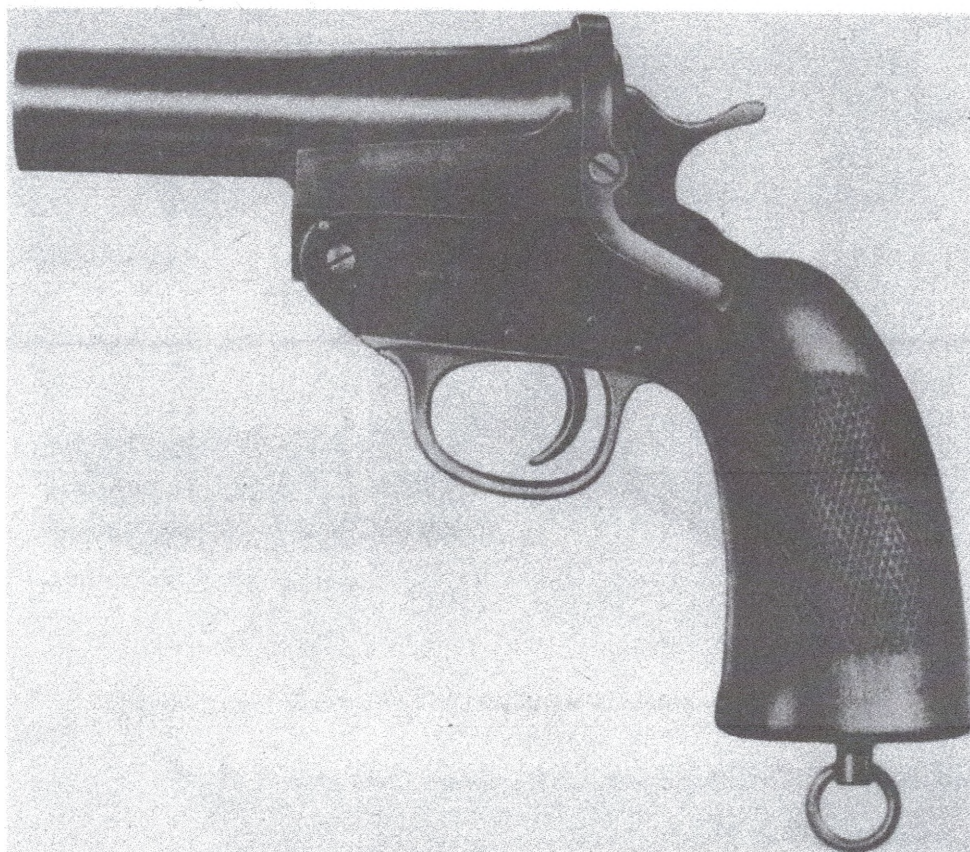

Figure 11 — Very Pistol M5 — Left Side View RA PD 50757
(9) **VERY PISTOL M5** (fig. 11). This pistol is single-action, single-loading, and is used in the same manner and for the same purpose as the Very Pistol, 10-gage, Mk. III. It is considerably lighter in weight than the Very Pistol, 10-gage, Mk. III.